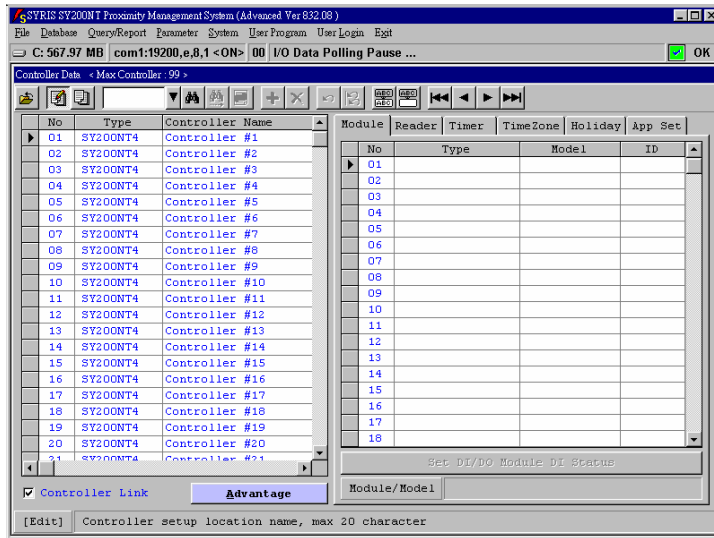

Fig.3-2 Module Allocation Master Screen
1. Click "Module", sub-menu appears, Fig.3-2.